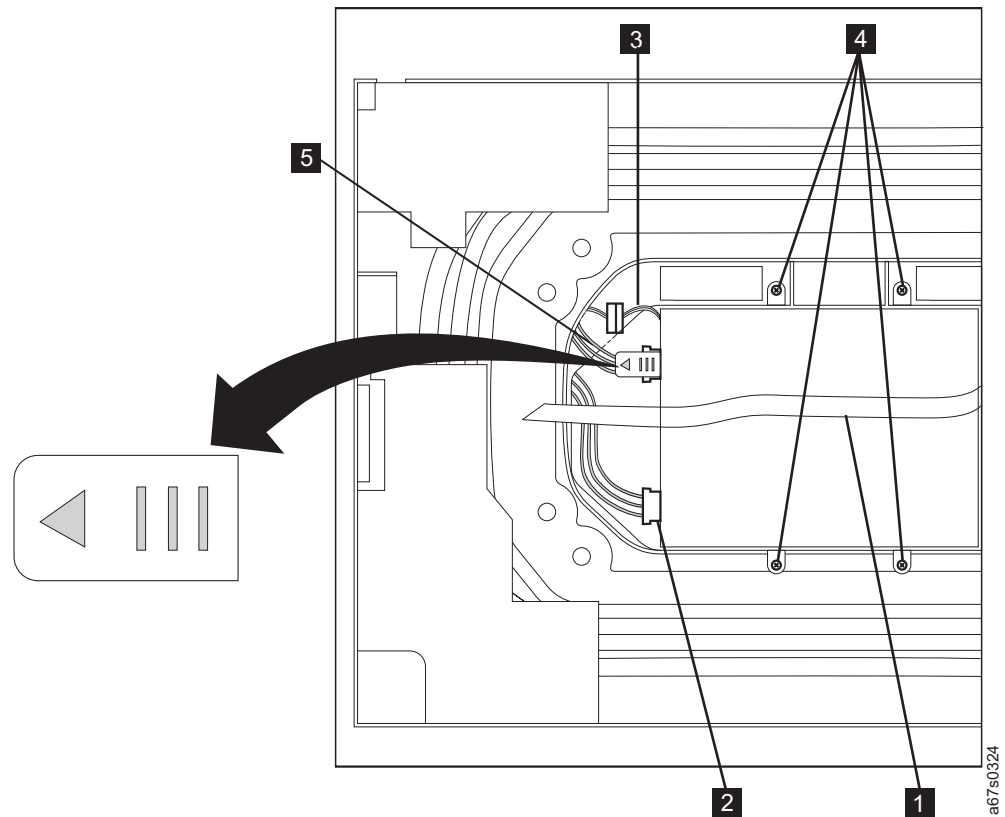

Figure 161. Internal view of drive in Autoloader
- e. The ribbon cable ( **1** in Figure 161 on page 273) is secured to the top of the drive by adhesive. Loosen the ribbon cable from the top of the drive, then carefully slide the drive from underneath the ribbon cable and out of the chassis.
- b. Remove the three screws from the rear panel (refer to **1** in Figure 161 on page 273).
- d. Remove the 2 screws attaching the bottom cover to the sides of the Autoloader (refer to **2** in Figure 161 on page 273).
- a. Lift the clear tab, squeeze the top and bottom of the cable plug to disengage the plug prongs (located on the underside of the plug) while pulling the fiber cable ( **5** in Figure 161) out of the connector on the back of the drive.
- b. Unplug the power cable ( **2** in Figure 161).
- c. Unplug the RS-422 cable ( **3** in Figure 161). Use a flat blade screw driver to separate the two parts of the connector.
- d. Remove the four screws securing the drive ( **4** in Figure 161).
- e. The ribbon cable ( **1** in Figure 161) is secured to the top of the drive by adhesive. Loosen the ribbon cable from the top of the drive, then carefully slide the drive from underneath the ribbon cable and out of the chassis.